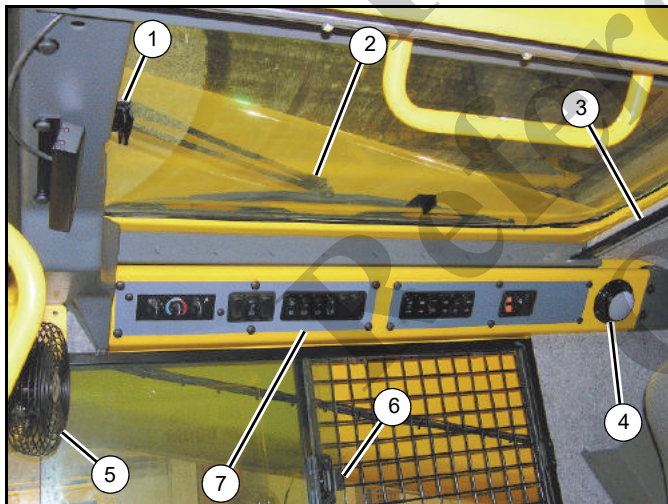
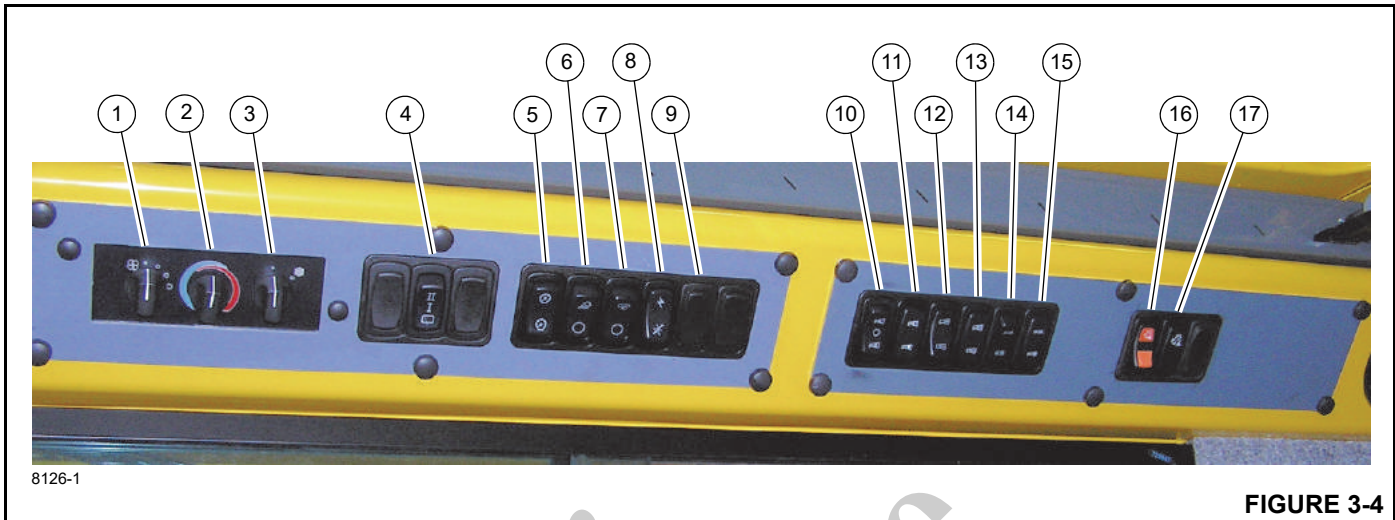

FIGURE 3-3
Figure 3-4 Item Numbers
The Skylight Window Latch (1, (Figure 3-3)) is at the front of the window. Squeeze the latch and slide the window to the rear to open. To close slide the window forward until the latch engages.
The Skylight Wiper (2, Figure 3-3) is controlled by the Skylight Wiper Switch, (4, Figure 3-4), and operated by the Wiper Motor.
The Skylight Sunscreen (3, Figure 3-3) is used to diminish direct sunlight. The sunscreen is self retracting and can be set to screen all the light or adjusted reward by moving it into the notches provided.
The Cab Dome Light (4, Figure 3-3) is on the right rear corner of the cab overhead console and provides illumination in the cab. The dome light is controlled by a switch on the light.
The Cab Circulating Fan (5, Figure 3-3) is located on the left front side of the cab, above the window frame. A swivel allows the fan to be rotated and a switch on the fan base controls the fan. The switch has a high, low and off position.
The window on the right side of the cab can be opened. Squeeze latch (6, Figure 3-3) to release the window and slide forward. To close slide the window rearward until the latch engages.
The Heater/Air Conditioner Fan Switch (1, Figure 3-4) controls the cab fan’s speed. Fan speed controls the volume of heated air output (or cooled air output) of the fan. Settings are off, low speed, medium speed, and high speed.
The Heater Control Switch (2, Figure 3-4) controls intensity of heating temperature. Turn the switch to the right (clockwise) to open the valve for heat. (Heat comes from heated fluid going through the heater coil.) Turn the switch to the left (counterclockwise) to close the valve to stop fluid flow and minimize heat.
The Air Conditioning Switch (3, Figure 3-4) controls the operation of the optional air conditioning system. Settings are off (O) and on (I).
The electrically-operated Skylight Wiper is installed to remove moisture from the skylight. The Skylight Wiper is controlled by the Skylight Wiper Switch (4, Figure 3-4). This is a 3 position switch OFF/LOW speed/HIGH speed.
The Panel Dimmer Switch (5, Figure 3-4) controls the lighting for the overhead heater/air conditioning controls and the Transmission Oil Temperature Gauge (7, Figure 3-10), push the switch to increase or decrease the panel lighting.
The Work Lights Switch (6, Figure 3-4) controls the crane’s work lights mounted on the bottom front of the superstructure cab. Press the top of the switch to turn on the work lights. Press the bottom of the switch to turn off the work lights.
The Boom Lights Switch (7) (Figure 3-4) is located on the side display panel. This two-position rocker switch (ON/OFF) controls operation of the boom flood lights. Press the top of the switch to turn on the boom lights, press the bottom of the switch to turn the lights off.
The Crane Function Power Switch (8) (Figure 3-4) is located on the side display panel. This two-position (ON/OFF) rocker switch permits the operator to disconnect power from the crane functions controlled by the hydraulic remote controllers on the armrests. Positioning the switch to OFF prevents inadvertent operation of functions due to bumping the controllers while roading or any other operation. With the switch in the OFF position, operation of the high speed hoist is also prevented.
The Engine DPF (Diesel Particulate Filter) Switch (9) (Figure 3-4) is located on the right side of the overhead control panel. This switch is a three position switch, Inhibit Regen/Permit Regen/Start Regen. Press this switch to start engine regeneration or to disable regeneration:
The Boom Section 1/Section 2 Selector Switch (10) (Figure 3-4) and Indicator (11) are located on the overhead control panel. The switch (10) is a three position rocker type switch that is used in conjunction with the Boom Manual/Automatic Mode Selector Switch (12).
When operating in the manual mode, the Boom Section 1/Section 2 Indicator (11) (Figure 3-4) will indicate which boom section has been activated by the Boom Section 1/Section 2 Selector Switch (10).
The Boom Manual/Automatic Mode Selector Switch (12) (Figure 3-4) and Indicator (13) are located on the overhead control panel. The switch (12) is a two-position rocker type switch labeled Auto (Automatic) and Man (Manual).
Normal crane operation is performed with the Boom Manual/Automatic Mode Selector Switch (12) positioned to the Auto Mode (bottom of switch is pressed), which causes the boom sections, when actuated, to extend and retract in a predetermined sequence based on the position of the Boom A/B Mode Selector Switch (14) (Figure 3-4). When the Boom Manual/Automatic Mode Selector Switch (12) is positioned to Auto Mode, the Boom Manual/Automatic Mode Indicator will indicate Auto Mode.
The Boom A/B Mode Selector Switch (14) (Figure 3-4) and Indicator (15) are located on the overhead control panel. The switch (14) is a two position rocker type switch that is used to change the sequence in which the boom sections extend and retract when operating in the Automatic mode.
With the Boom Manual/Automatic Mode Selector Switch (12) (Figure 3-4) positioned to automatic mode and the Boom A/B Mode Selector Switch (14) positioned to A mode (top of switch is pressed), the boom control system, when extending the boom, will fully extend Sections 2, 3, and 4 before extending Section 1; and when retracting the boom, the control system will fully retract Section 1 before retracting Sections 2, 3, 4. Conversely, when the Boom A/B Mode Selector Switch is positioned to B mode, the boom control system, when extending the boom, will fully extend Section 1 before extending Sections 2, 3, and 4; and when retracting the boom, the control system will fully retract Sections 2, 3, 4 before retracting Section 1.
The Boom Recovery Mode Switch (16) (Figure 3-4) and Indicator (17) are located on the overhead control panel. The switch (16) is a two position rocker type switch that has an integral lock to prevent accidental activation. The Recovery Mode Switch overrides the boom control system and allows the boom to be recovered (retracted) in the event the boom telescope function stops working due to a sensor failure or loss of communication with the rated capacity limiter (RCL). The indicator (17) will flash if a failure occurs. Refer to *Retracting the Boom Using the Boom Recovery Mode*, page 3-42 to recover the boom if there is a failure in the boom control system.